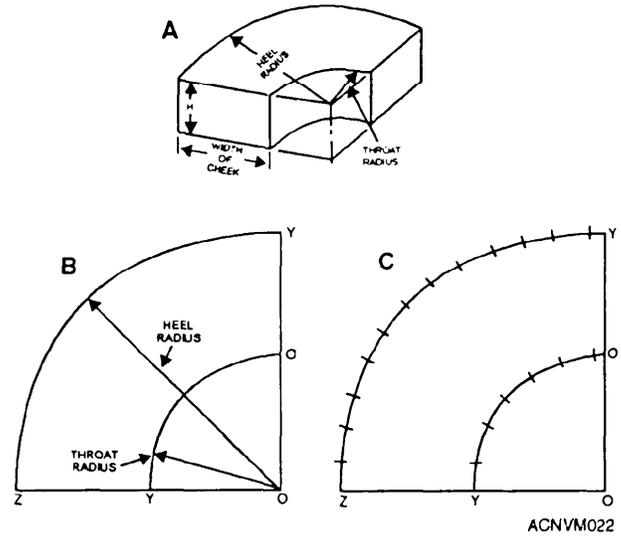

Figure 12-22.—Layout of a square or rectangular elbow.
**LAY OUT A SQUARE OR RECTANGULAR ELBOW WITH A PAIR OF DIVIDERS.** Take a look at figure 12-22. View A shows you what the completed job should look like. Now, to make your layout for this job, draw the base line OZ shown in view B. Set the dividers for a distance equal to the width of the cheek. This distance forms the throat radius. This rule will not always apply, as it must often be governed by the amount of space available to make the turn with the elbow. Now, with O as a center, scribe the arc YU. To get the heel radius, add the width of the cheek to the throat radius. Using O as a center, scribe the arc ZT. These layouts, when cut, will form the cheeks, or sides, of the elbow. The next operation is to lay out the heel and throat pieces. These are the other two of the four
sides of the elbow, the throat being the inside piece and the heel the outside piece. Set the dividers at exactly 1 inch, and step off the heel and throat arcs as shown in view C of figure 12-22. If there is a distance of less than 1 inch left at the end of the arc, measure it with another pair of dividers or a scale. To make the stretchout of the heel and throat, lay out one piece of metal equal to the height of the elbow (H in view A, fig. 12-22) and equal in length to the number of steps taken with the dividers, plus the fraction of an inch left over. One stretch out will be the heel and the other the throat. You can assemble this elbow by welding, in which case you do not need to allow for tabs. But welding will cause a thin section to warp, so you may need to use some of the other standard methods for joining this type of work.